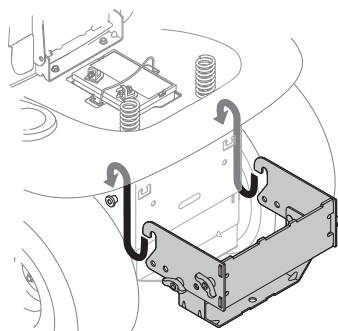

Figure 3
1. Place the hooked ends of the mounting assembly over the shoulder bolts on the back of the tractor frame and line up the hitch support bracket center hole with the hole on the tractor's hitch. See Figure 3.